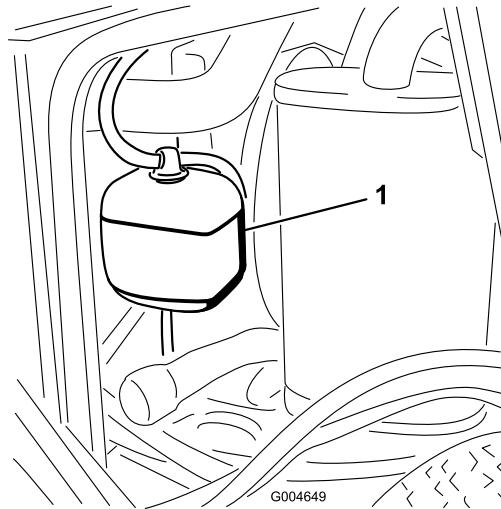

Figure 66
1. Check the level of the coolant in the expansion tank (Figure 66). The coolant level should be between the marks on the side of the tank.